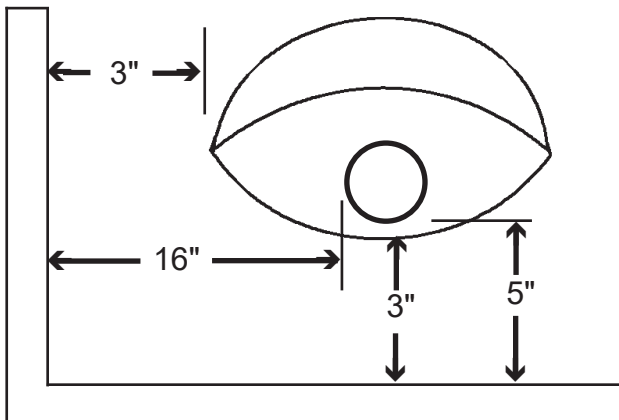

Figure 1
The minimum clearances from the appliance to combustibles are shown on figures 1 and 2. Place the appliance on a flat, solid, continuous surface (i.e. wood, tile, concrete, metal). The unit must be placed on wood or metal panel extending the full width and depth of the unit, when installed on carpet or other combustible materials.
**READ ALL INSTRUCTIONS CAREFULLY BEFORE STARTING THE INSTALLATION.** Position unit to comply with the minimum clearances to combustible materials. Minimum clearances are shown in figures 1 and 2. It is recommended that no overhead cross members in the ceiling or roof be cut. Reposition unit if necessary, being careful not to move closer than the minimum clearances.